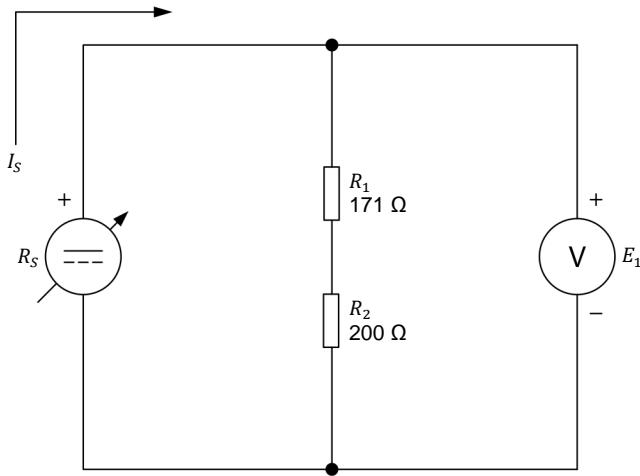

Figure 18. Determining the equivalent resistance of resistors connected in series.
3. Set up the series circuit shown in Figure 18. To obtain the resistor arrangement of Figure 18, make the necessary connections and switch settings on the **Resistive Load** module.
6. Calculate the equivalent resistance ( $R_{Eq.}$ ) of series resistors  $R_1$  and  $R_2$  in Figure 18.